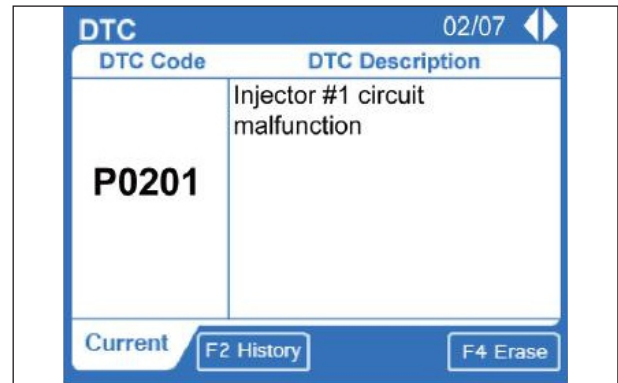

Fig. 7.11
- It displays the errors currently present in the vehicle. It can be both confirmed error as well as non confirmed error (error is created in the vehicle but is not confirmed). (Fig. 7.11)